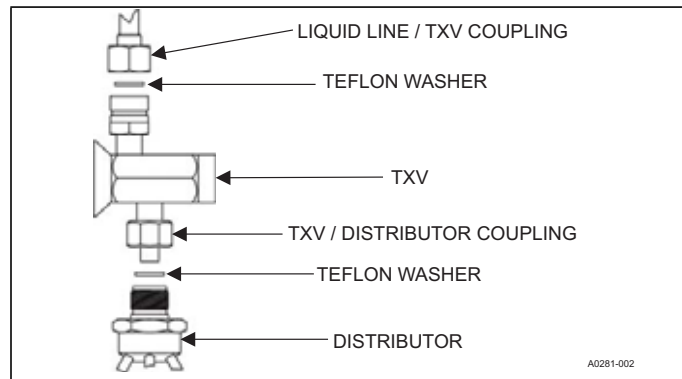

FIGURE 6: TXV Installation
4. Install the thermal expansion valve to the distributor assembly with supplied fittings. Ensure Teflon washer is seated in distributor. Hand tighten and turn an additional 1/4 turn to seal. DO NOT OVERTIGHTEN FITTINGS. See Figure 6.